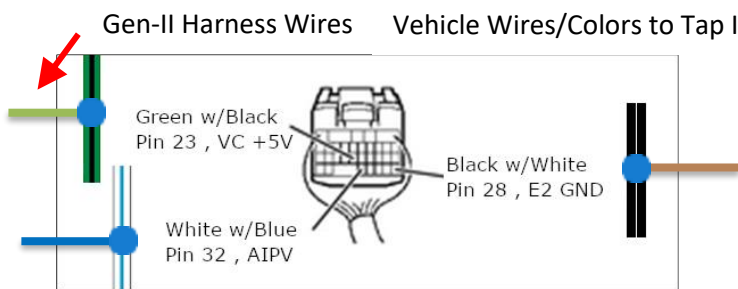

Figure 20 – 05’-06’ Tundra Wire Colors.
21) Use your Figures 20, 21, 22 or 23 for your vehicle to find and separate the pressure sensor wires from the rest of the connector’s wire bundle. **Triple-check that you have identified the correct ECM wires. If your vehicle’s wire colors do not match do not make any connections before making sure you are looking at the correct connector and pin numbers.**